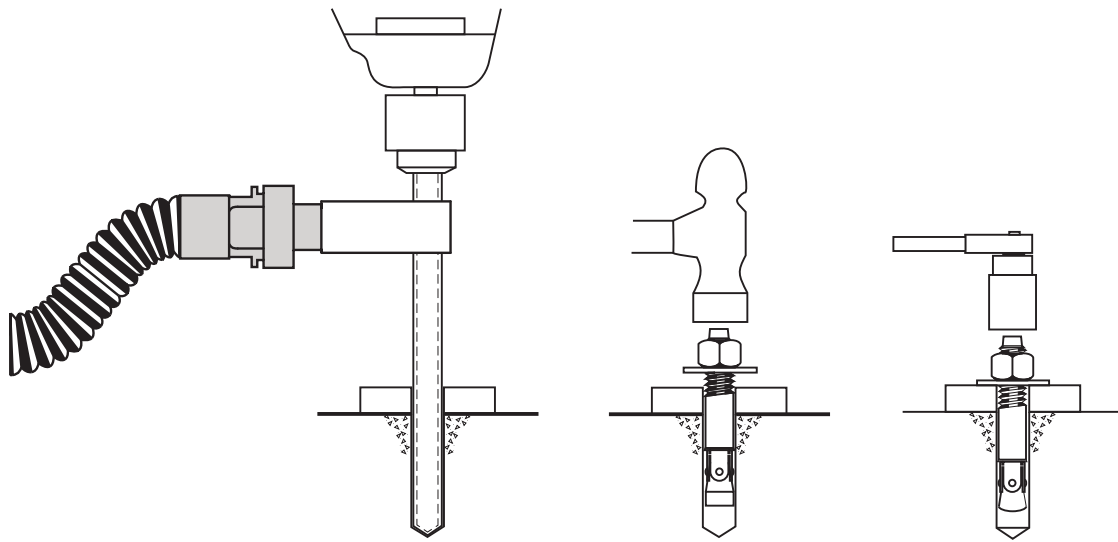

Fig. 4
Drill (14) 3/4" dia. holes in concrete floor using holes in column base plate as a guide. See Figs. 4 and 5 for hole requirements.